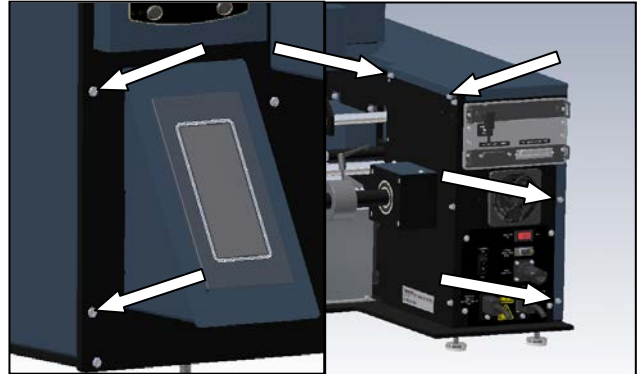

Figure 3-113. Frame Cover Screws
1. Remove the six screws holding the Frame Cover, Set screws and Frame Cover aside (Figure 3-113).